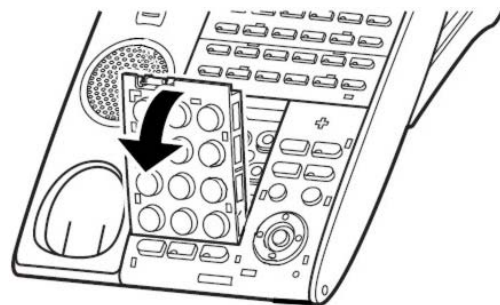

Figure 5-54 Removing Numbered Keypad from DT300/DT700 Series Terminal
2. Pull down on the tab and lift the Numbered Keypad away from the telephone to remove the existing button. See Figure 5-54 Removing Numbered Keypad from DT300/DT700 Series Terminal.